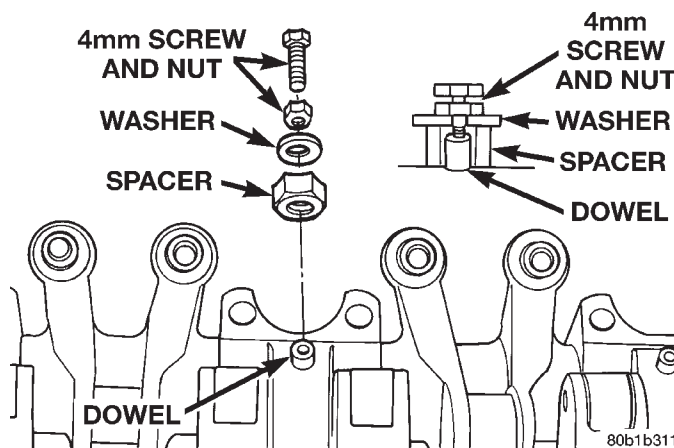

Fig. 106 Rocker Arms and Shaft—Disassembly
- (1) Remove dowel pin using a 4 mm screw, nut, spacer, and washer installed into the pin (Fig. 106). Thread the screw into the pin, then loosen the nut on the screw. This will pull the dowel out of the shaft support. Do not reuse dowel pins. Remove the rocker arms and pedestals in order.